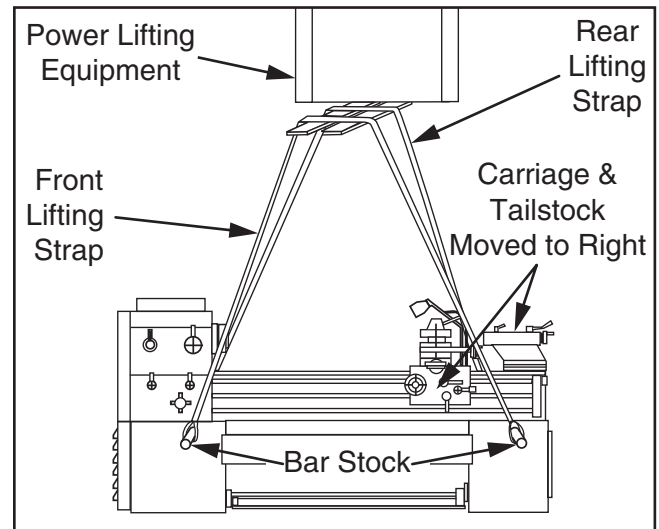

Figure 13. Example of lathe setup for lifting.
6. Insert round steel bar stock through four lifting holes (see **Figure 13**).
7. Attach lifting straps to bar stock and power lifting equipment (see **Figure 13**). Make sure there is enough space between straps and control rod, feed rod, leadscrew and electrical cabinet to prevent putting pressure on these components when lifting.